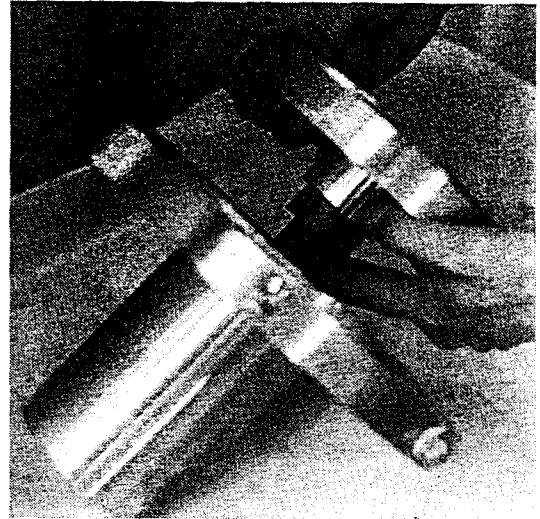

Figure 15
10. Carefully slide off the casing cover. Both the bushing (Item 42) and the sleeve (Item 43) are now loose and may come out with the casing cover. Since both parts may be damaged if dropped, be prepared to hold them as the casing cover clears the shaft [Fig. 15].